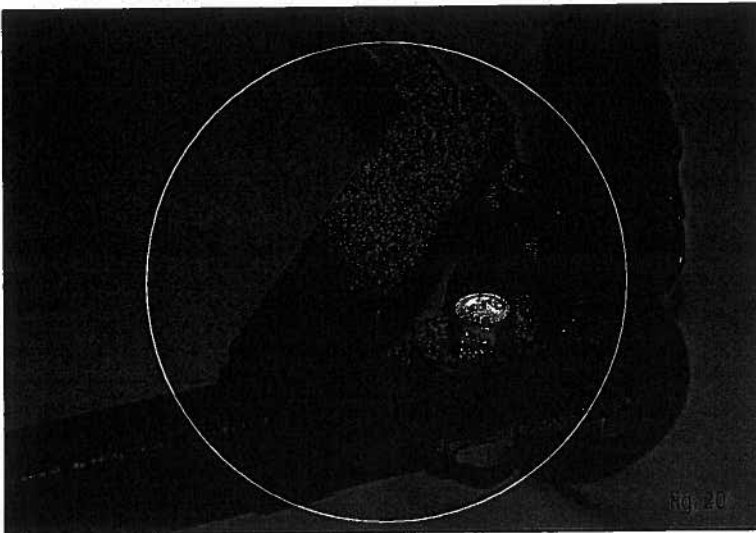

fig. 20
STEP 4: For some beds, Universal Corner Brackets (part G) can be used to add stability, as long as doing so does not interfere with the Bed Casters. Install Corner Brackets (fig. 20).